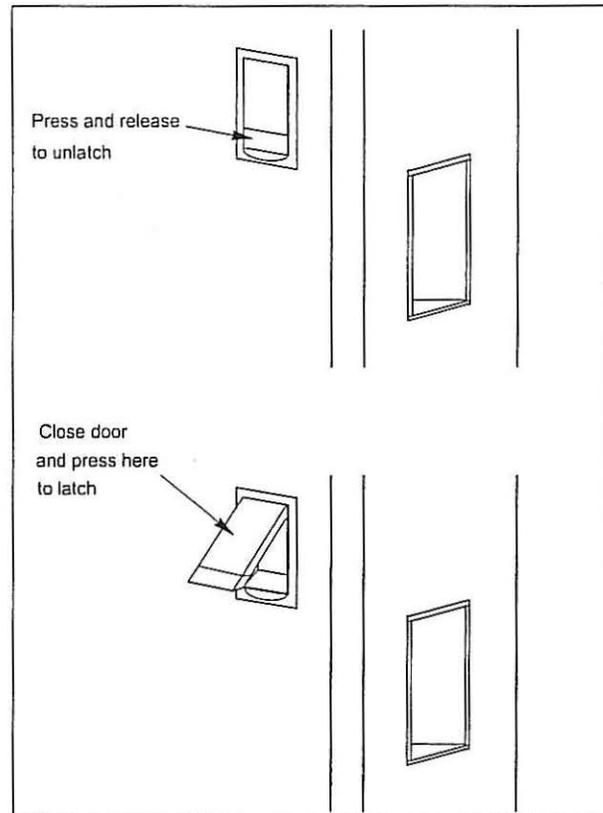

Figure 2. Oven Door Operation
- To open the oven door, press the lower portion of the black door latch located on the front of the oven (refer to Figure 2).
- To close the door, push it shut tightly while pressing the upper portion of the black door latch (refer to Figure 2).